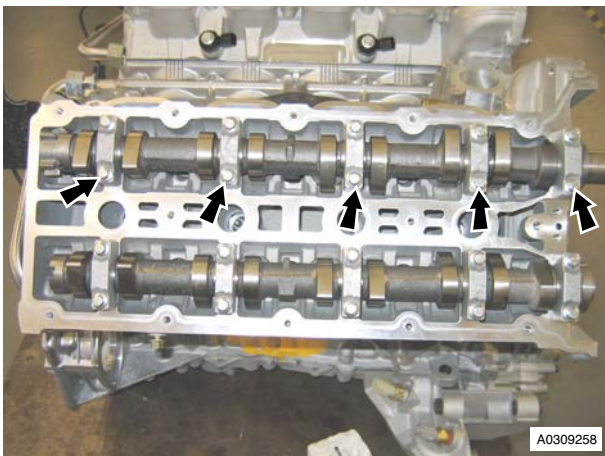

Figure 2 (Right Side Shown)
- Loosen the bolts that attach the ten intake camshaft bearing caps gradually, in steps (refer to Figure 2 - Right side shown).